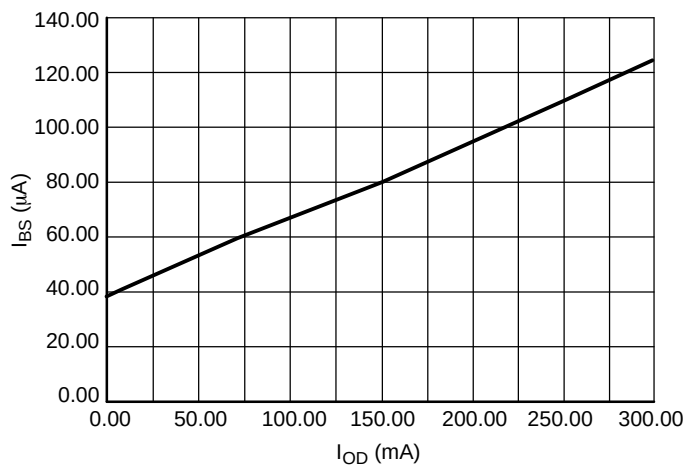

Figure 11. Bias/Set Current – Output Drive Current
a) The maximum output sink current is determined by the base drive current supplied to the lower transistors (Q_Ls of Figure 5) of each output, which in turn, is a function of I_{BS}. The appropriate value of I_{BS} can be approximated using Figure 11.
For example, assume an application where $V_M = 12$ V, the motor requires 200 mA/coil, operating at room temperature with no heatsink on the IC. From Figure 11, I_{BS} is determined to be 95 μ A.